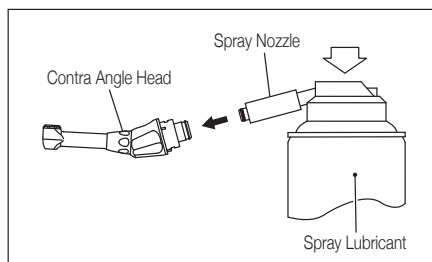

Fig. 12
- 2) Insert the spray nozzle into the rear part of the contra angle head and lubricate the head for 2-3 seconds. (Fig. 12)